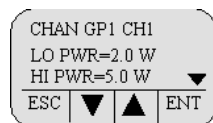

Figure 10
14. Scroll down and select "LO PWR" and press "ENTER" to program the Low Power Setting. *(See Figure 10)*
15. Scroll down and select "HI PWR" and press the "ENTER" key to program the High Power Setting. *(See Figure 10)*